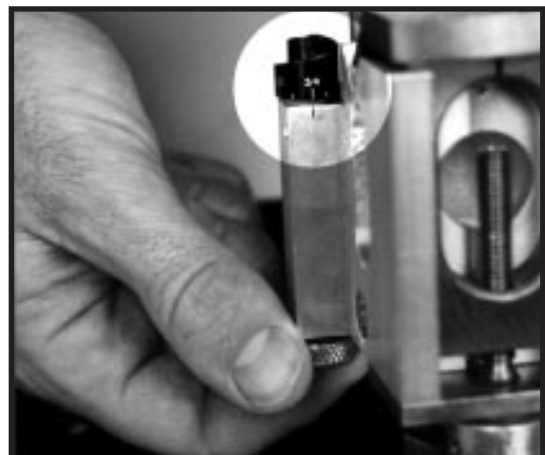

Figure 4
2. Set cutter depth control to desired diameter (Figure 4).